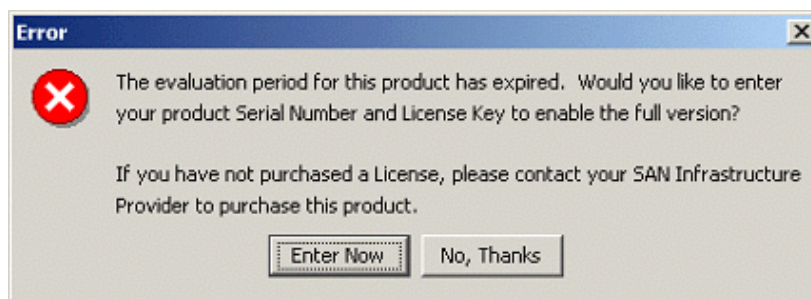

Figure 5: Fabric Manager Evaluation Installation Version Expiration Error
After the sixtieth day, the evaluation version expires and an error message is displayed when you launch the evaluation version of Fabric Manager (see Figure 5).
- Click **Enter Now** from the error message that is displayed when you launch Fabric Manager after the 60 day evaluation period is up (see Figure 5). Enter your serial number and license key.